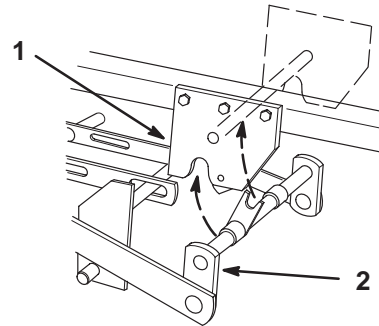

Figure 19
7. Open mid-mount hitch lock handle. Lower mower with attachment lift and remove front mounting shaft (Fig. 19).